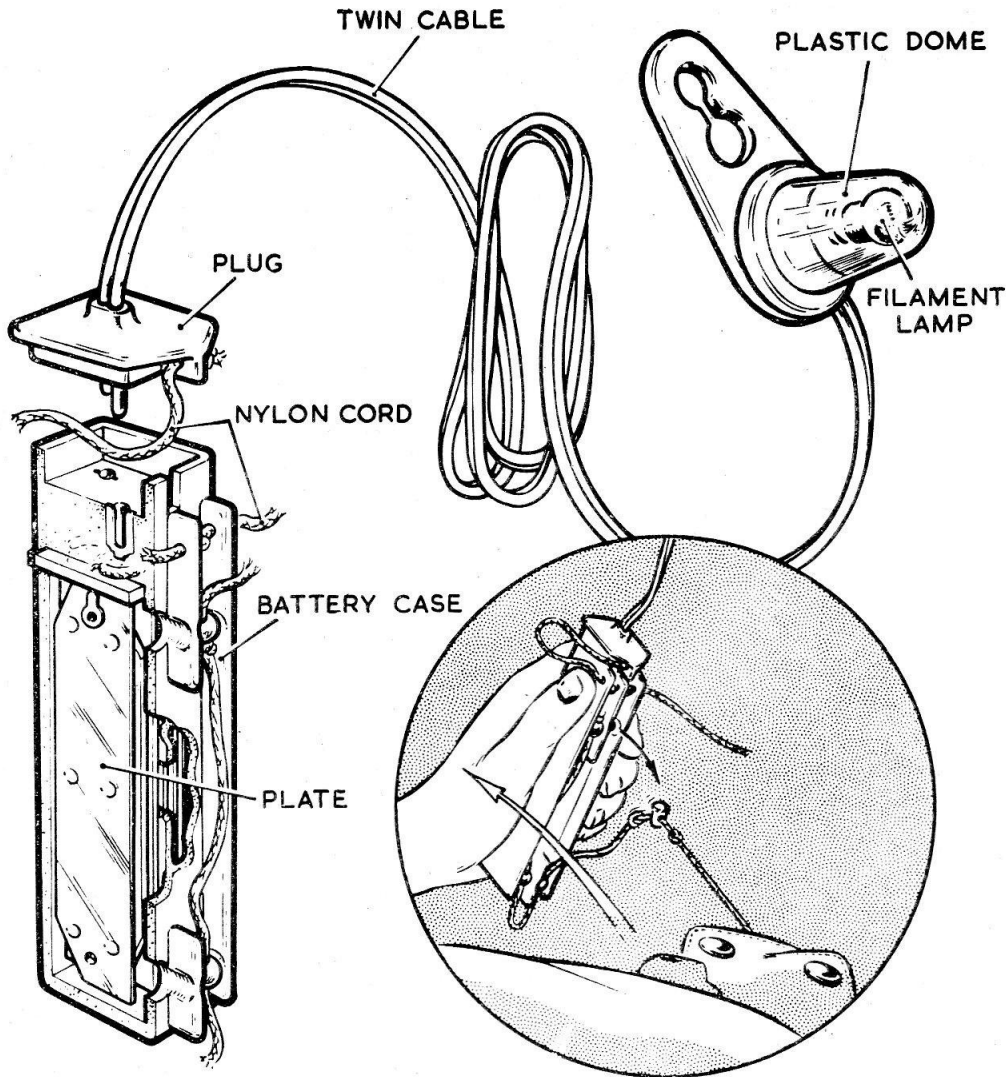

Fig. 1. Part section view, with inset showing removal of studs
2. The lamp (*fig. 1*) comprises a water tight lamp housing connected by a 49 in. length of twin P.V.C. covered flexible cable to a water-activated battery. The connection between the lamp and the battery may be broken by removing the 2-pole plug, which terminates the lead from the lamp, from the socket in the top end of the battery.